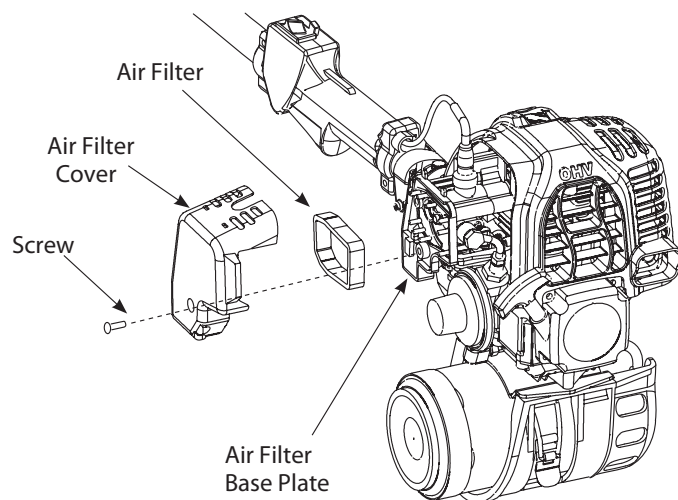

Fig. 20
1. Remove the phillips head screw in the air filter cover. Then pull the air filter cover out and upwards (Fig.20) .
2. Remove the air filter (Fig. 20).